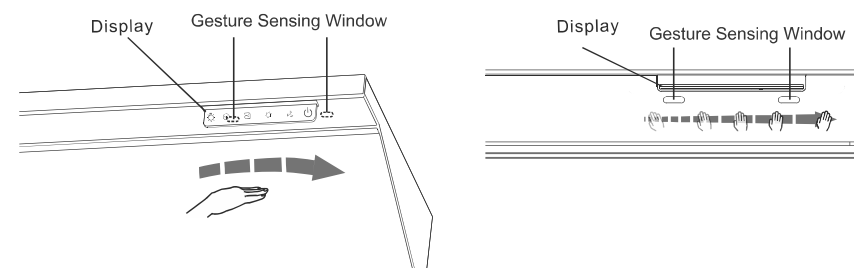

Fig 5
- On the ready mode, Please wave “” left to right quickly through the gesture sensing Windows at both ends (as shown in figure 5), open the range hood (including the light); The range hood is at smart flow mode.